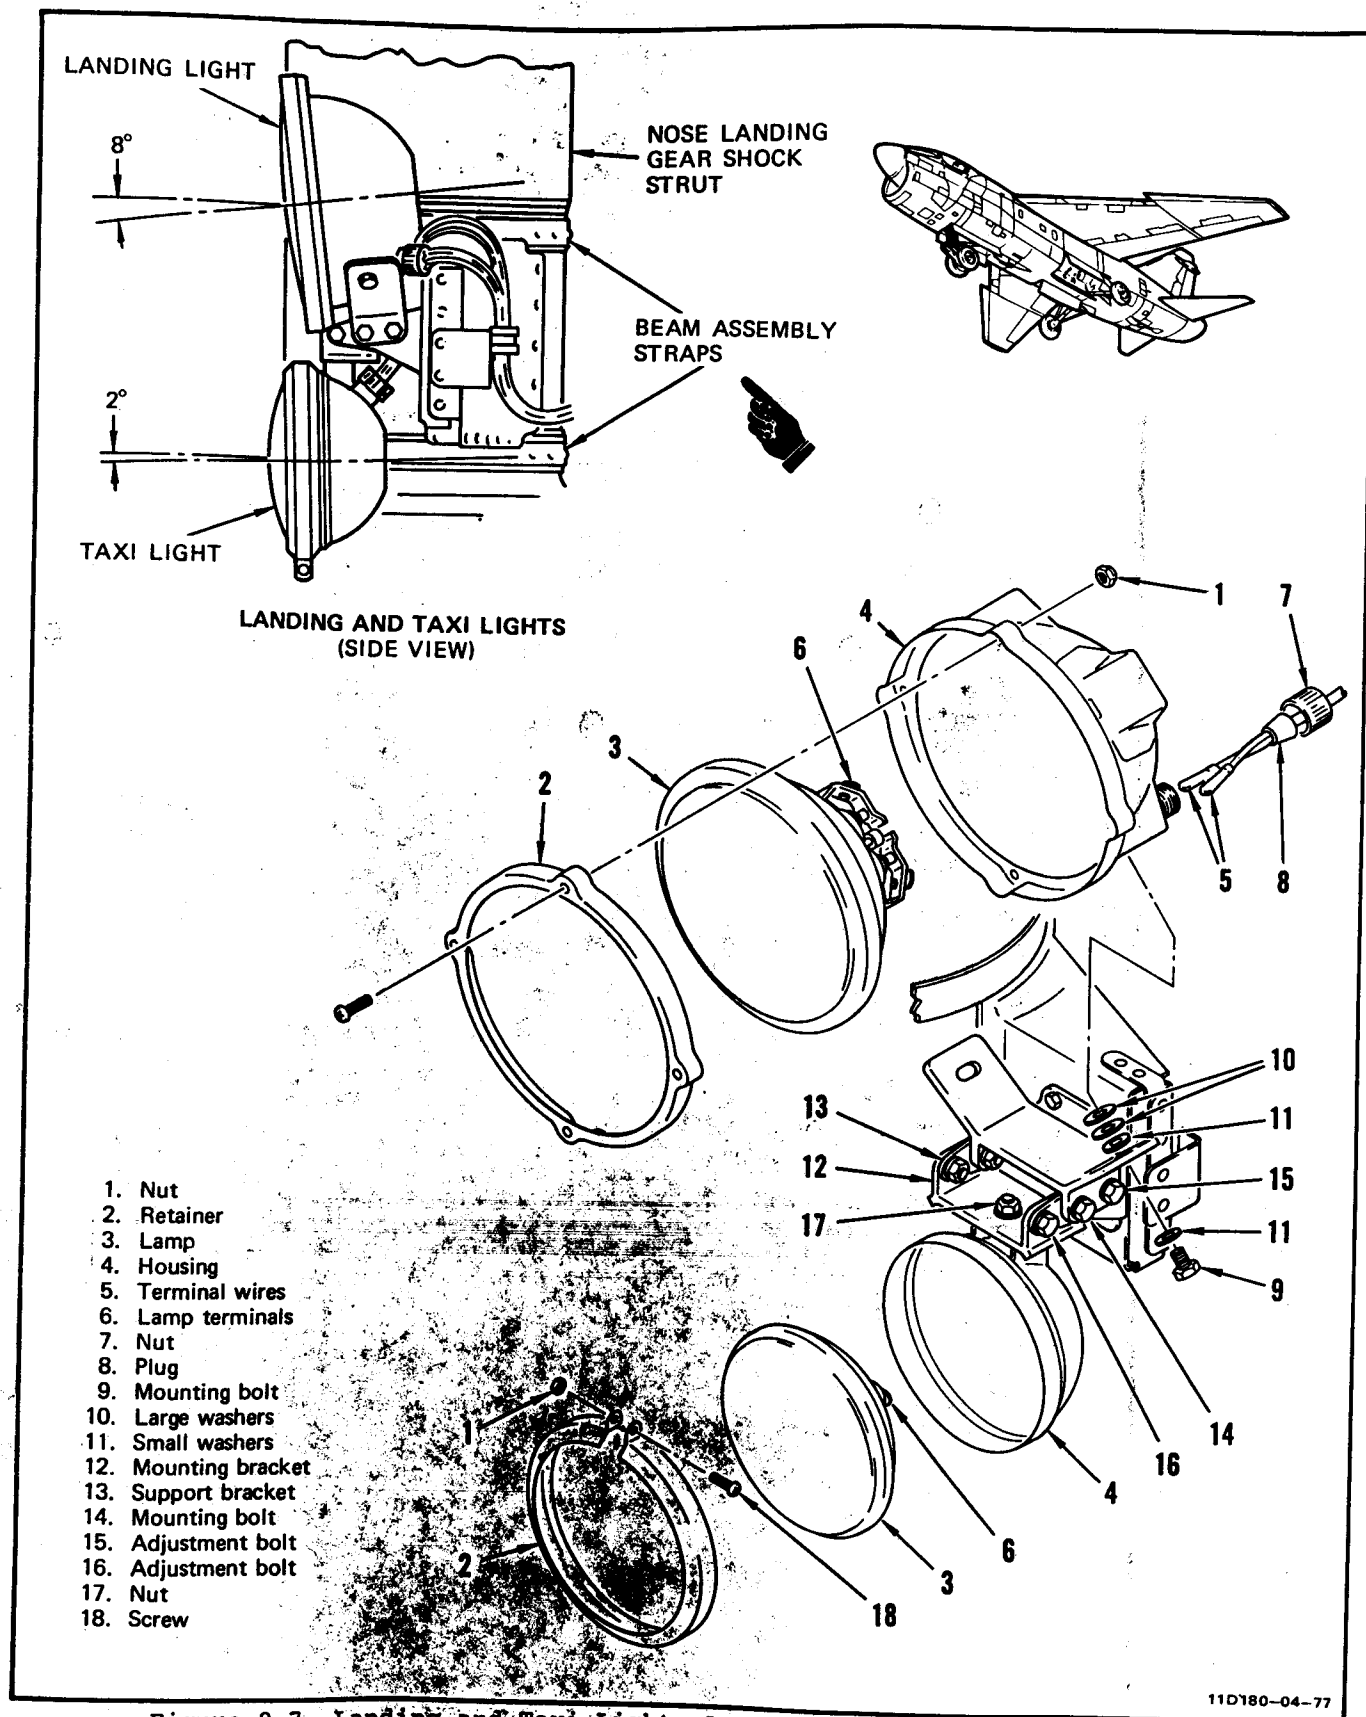

Figure 8-7. Landing and Taxi Lights Assembly Removal and Installation
8-39. REMOVAL. (See figure 8-7.)
8-40. INSTALLATION (See figure 8-7.)
**8-42. REMOVAL.** (See figure 8-7.)
b. Remove knurled feedthrough nut (7) at wire feedthrough on back of light housing bracket. Pull potted plug (8) and terminal wires (5) out of housing.
c. For removal of landing light assembly, remove two mounting bolts (9) and eight washers (10 and 11). Remove landing light assembly from mounting bracket on beam assembly.
d. For removal of taxi light assembly, remove mounting nut (17). Remove taxi light assembly from mounting bracket on beam assembly.
**8-43. INSTALLATION** (See figure 8-7.)
a. Secure landing light assembly to mounting bracket (12) with mounting bolts (9) and washers (10 and 11). Tighten bolts finger-tight.
b. Secure taxi light assembly to mounting bracket (12) with mounting nut (17).
d. Insert terminal wires (5) and plug (8) through recess in back of housing bracket and secure to fitting with knurled feedthrough nut (7).
i. Rotate two large tapered washers (10) to offer firm seating to lamp assembly in the adjusted position.
j. Rotate two small tapered washers (11) in opposite direction seat bolthead.
(Airplanes After T.O. 1A-7D-675.) (See figure 8-7.)